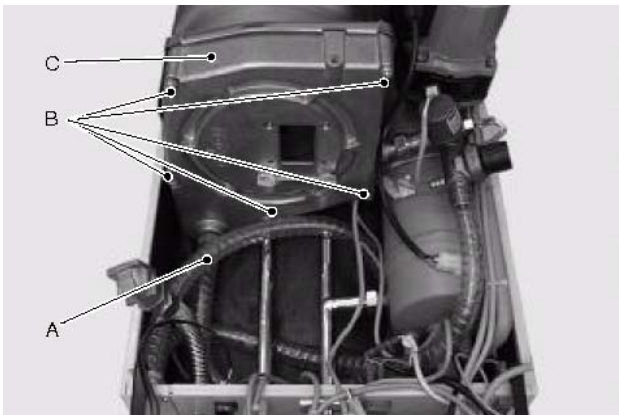

Fig. 11
- 4 Remove the condensate connection pipe A (Fig. 11).